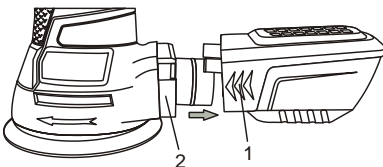

Fig. 2
1. Squeeze the sides of the dust box (1) and pull it away from the rear of the sander (2) (Fig. 2).
Clean the dust box often. It will be more efficient when it is not clogged with sanding dust. To clean the dust box, see Fig. 2 & 3 on Page 11.